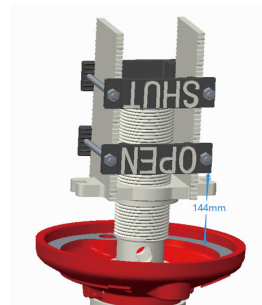

Figure 8
2.6 Turn the stem to ensure that the distance between the top of the OPEN plane and the machined surface in the cover is 144mm, as shown in Figure 8 below.